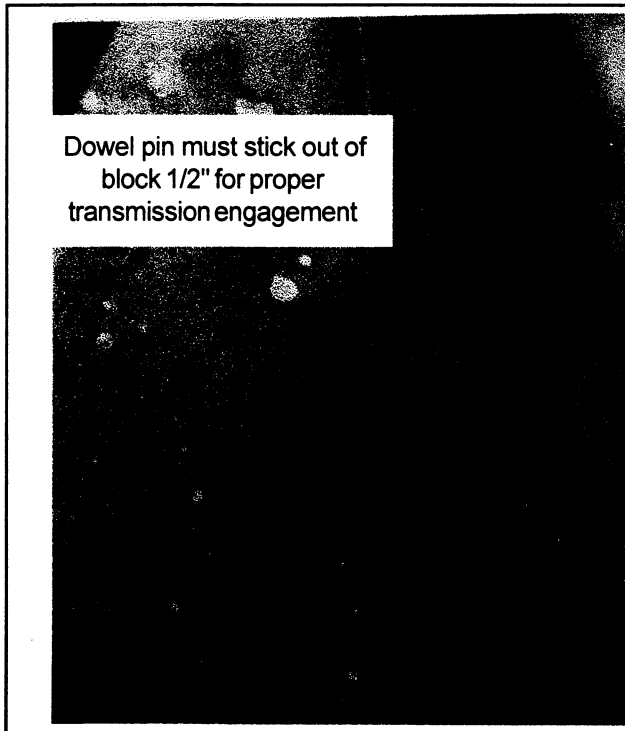

Figure 4
STEP 12. Inspect your engine block. Make sure there are no burrs that will prevent the transmission from bolting down flat against the engine. File off any burrs that may be present. Dowel pins should stick out of the engine block a minimum of 1/2" for proper engagement (see fig. 4). Insufficient dowel pin engagement can cause front seal and/or bushing failure due to improper engine/transmission alignment. Bellhousing bolts alone will not align the transmission properly.